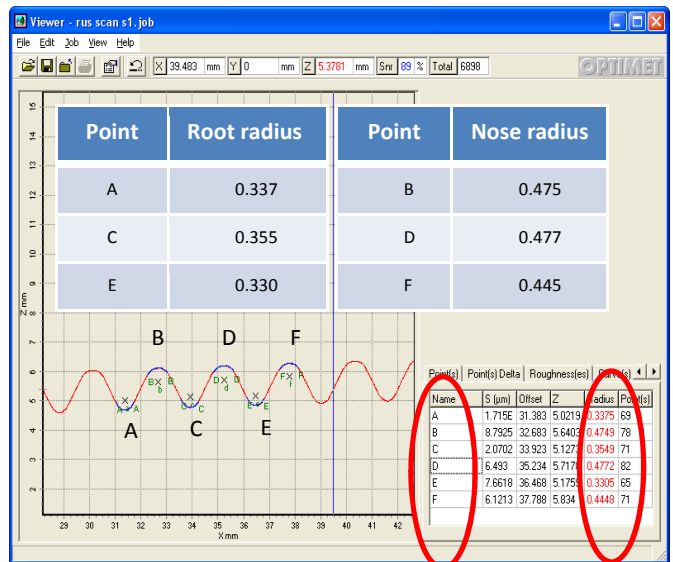

Figure 9 - Nose and Root Radii
- The spray thickness mainly affects (around 10 µm only) the root and nose radii (fig.9) by decreasing the former and increasing the latter. It does not affect the other measured parameters.